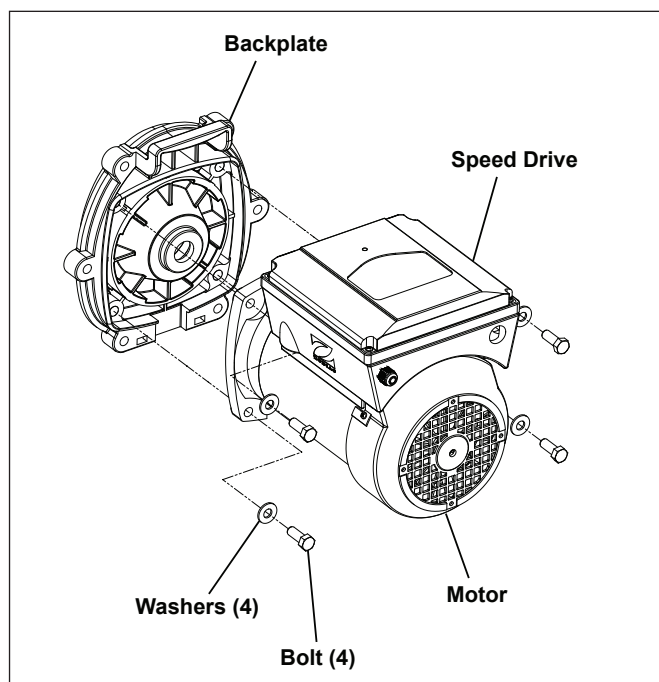

Figure 13. Backplate Assembly
2. Note the alignment of the backplate to the motor, as shown in Figure 13. Place the backplate motor assembly o-ring side down, unscrew the four 9/16" screws, and remove the motor.
4. Replace the four (4) bolts and washers holding the backplate to the motor and torque to 21 Nm. See Figure 13.